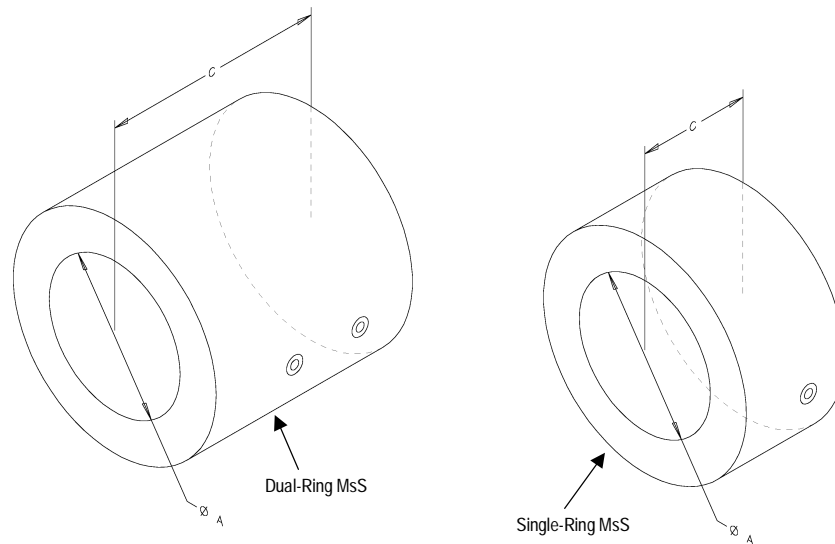

Figure 5. Ring MsS
Ring MsS (Figure 5) – For cylinders with outer diameter (OD) of 3 inches or less